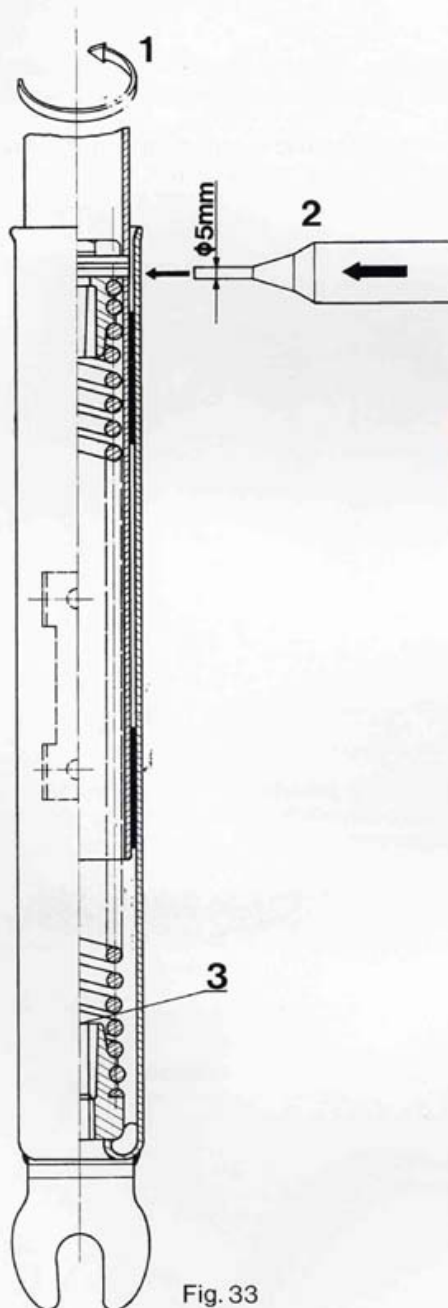

Fig. 33
The front fork lower leg can be removed as it is shown in fig. 33.
- by unscrewing remove lower leg from the front fork (fig.33/1)
- the upper plug should be removed after tapping out the elastic pin (fig.33/2)
- the lower plug can be removed with longer allen key (9 mm), (fig.33/3)